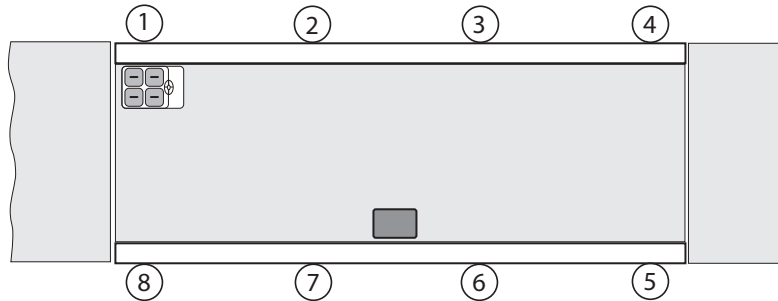

Figure 8-2. Trimming Load Cell Number One
1. Park the cart as close as possible to Side 1 (being trimmed) with the wheels centered over the end load cell mount (Number 1 in Figure 8-2). Record this indicator reading.